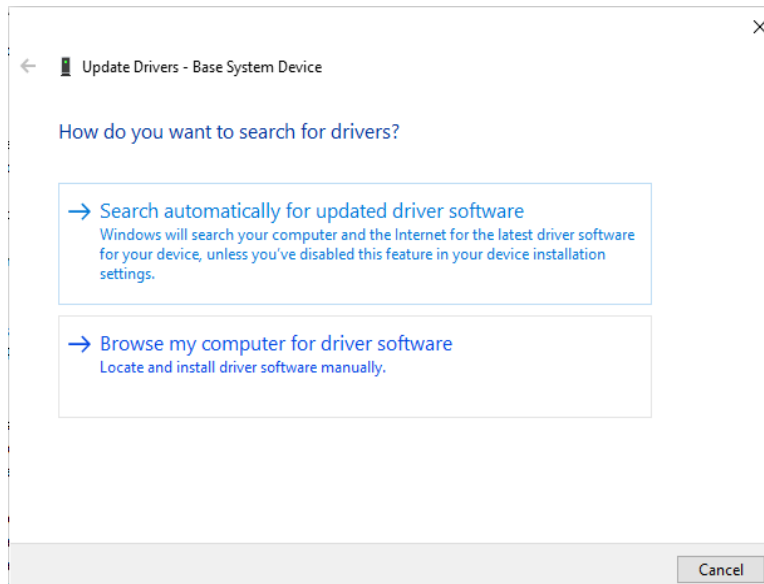

Figure 5.28. Update Driver Options
5. Select the **Browse my computer for driver software** option as shown in Figure 5.28.